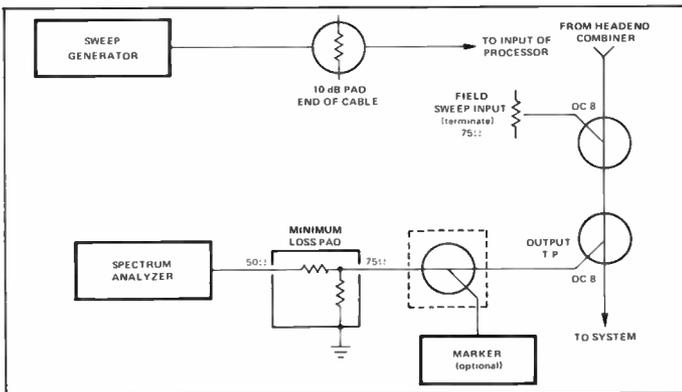

Figure 1
- 1) Set up the equipment as illustrated in Figure 1.